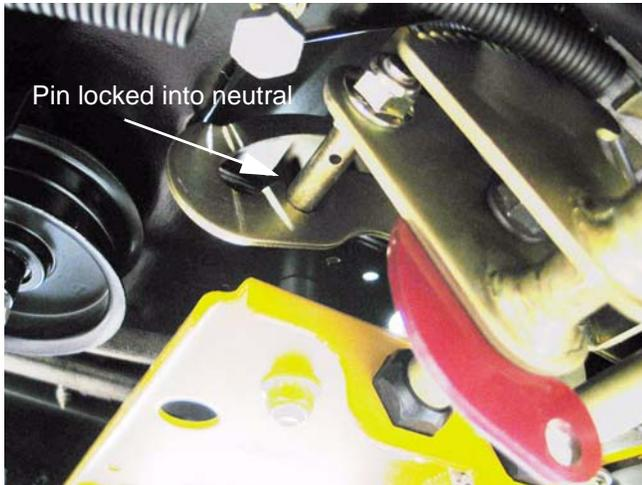

Figure 31.28
31.28. **To adjust the hydro control rod:** Find the Neutral position for the control pedal, and set the parking brake. The cam in the parking brake mechanism will lock the pin on the pedal shaft into Neutral. See Figure 31.28.